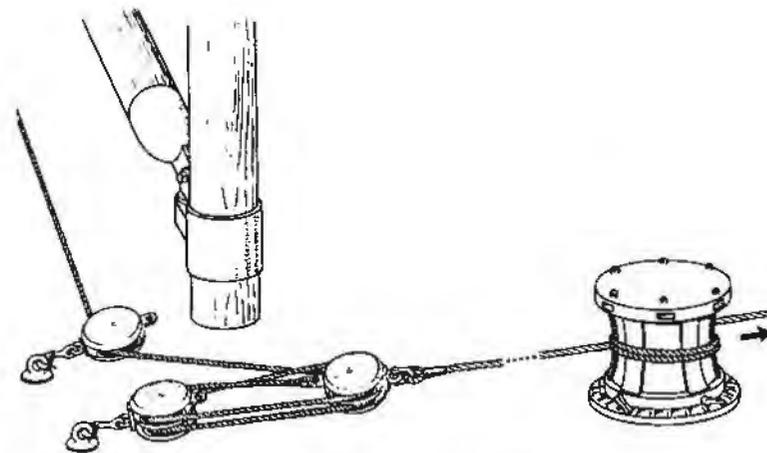

FIG. 8-19. Dutchman's purchase
**Dutchman's purchase (fig. 8-19)**
but powerful capstan. In the example illustrated in fig. 8-19 the whip would move a distance of 5 metres for every metre travelled by the moving block. When using a tackle in this manner the pull exerted by the capstan must be